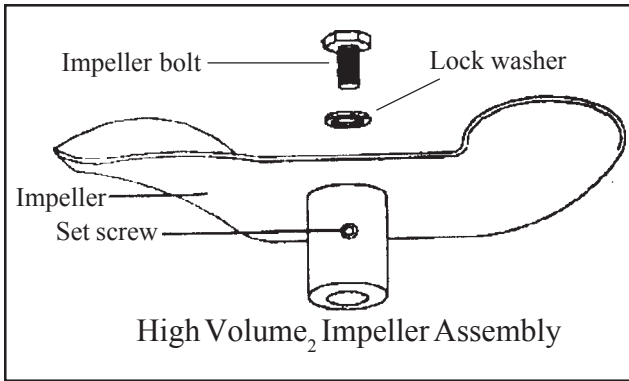

Figure 18
A. Install the High Volume impeller - see Figure 18